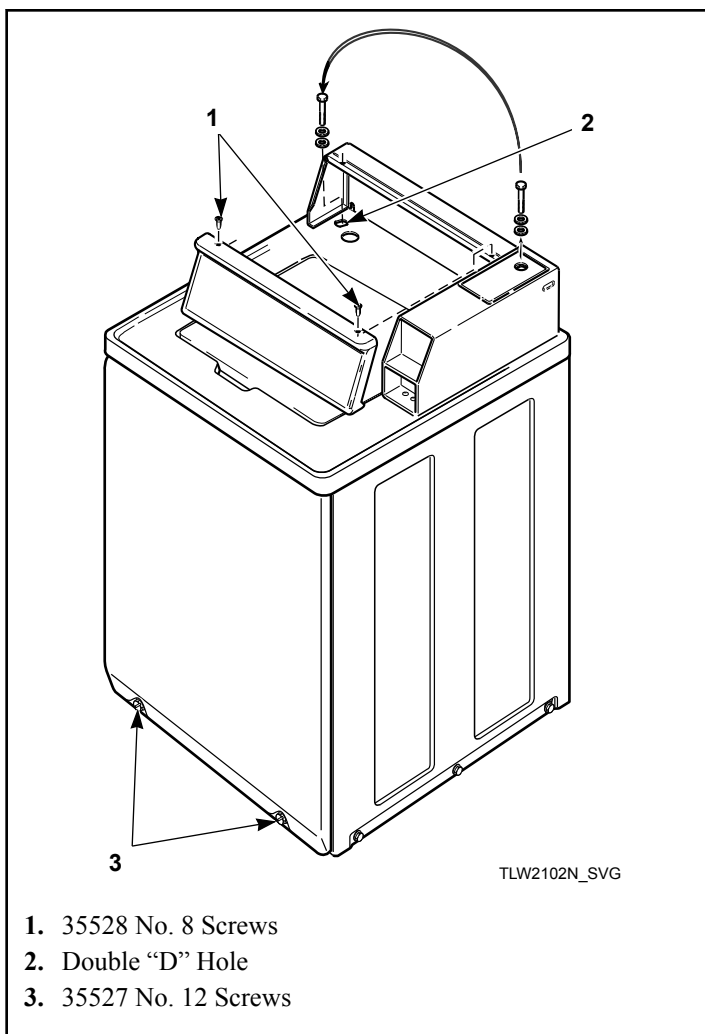

Figure 19
1. Remove the Phillips head screw from service door (refer to *Figure 19*).